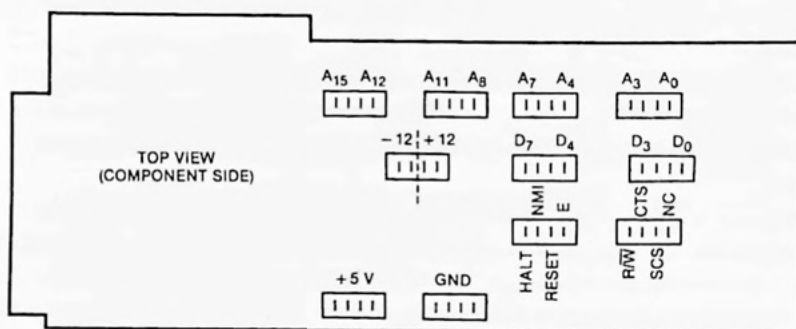

Figure 6-3
breadboard to correspond to the Color Computer expansion connector signals as shown in Fig. 6-3. Then, construct the breadboard as follows:
Step 2 — Insert each solderless connector block into its relative position on the blue *nonconductive* portion on the top (component side) of the breadboard (see Fig. 6-3). Notice that the solderless connector blocks are placed on the same side, but between the ground (GND) conductive paths of the breadboard. The connector block pins must be inserted into the breadboard holes and extend through to the other side for soldering. You might have to trim or realign the metal pins so that they fit through the breadboard holes properly.
diagram in Fig. 6-3 and the edge connector pin assignment diagram in Fig. 6-5. We suggest you proceed as follows: